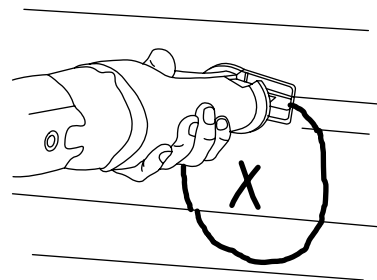

Fig. 8 — Cut Holes for Weather Hoods
1. Using the collar of the outside hood, outline the intake and exhaust holes to be cut. The hole should be slightly larger than the collar to allow for the thickness of the insulated flexible duct. See Fig. 8.
2. Cut a holes using the outline from Step 1. See Fig. 8. When cutting or drilling holes, be careful not to damage electrical wiring or other hidden objects in wall.